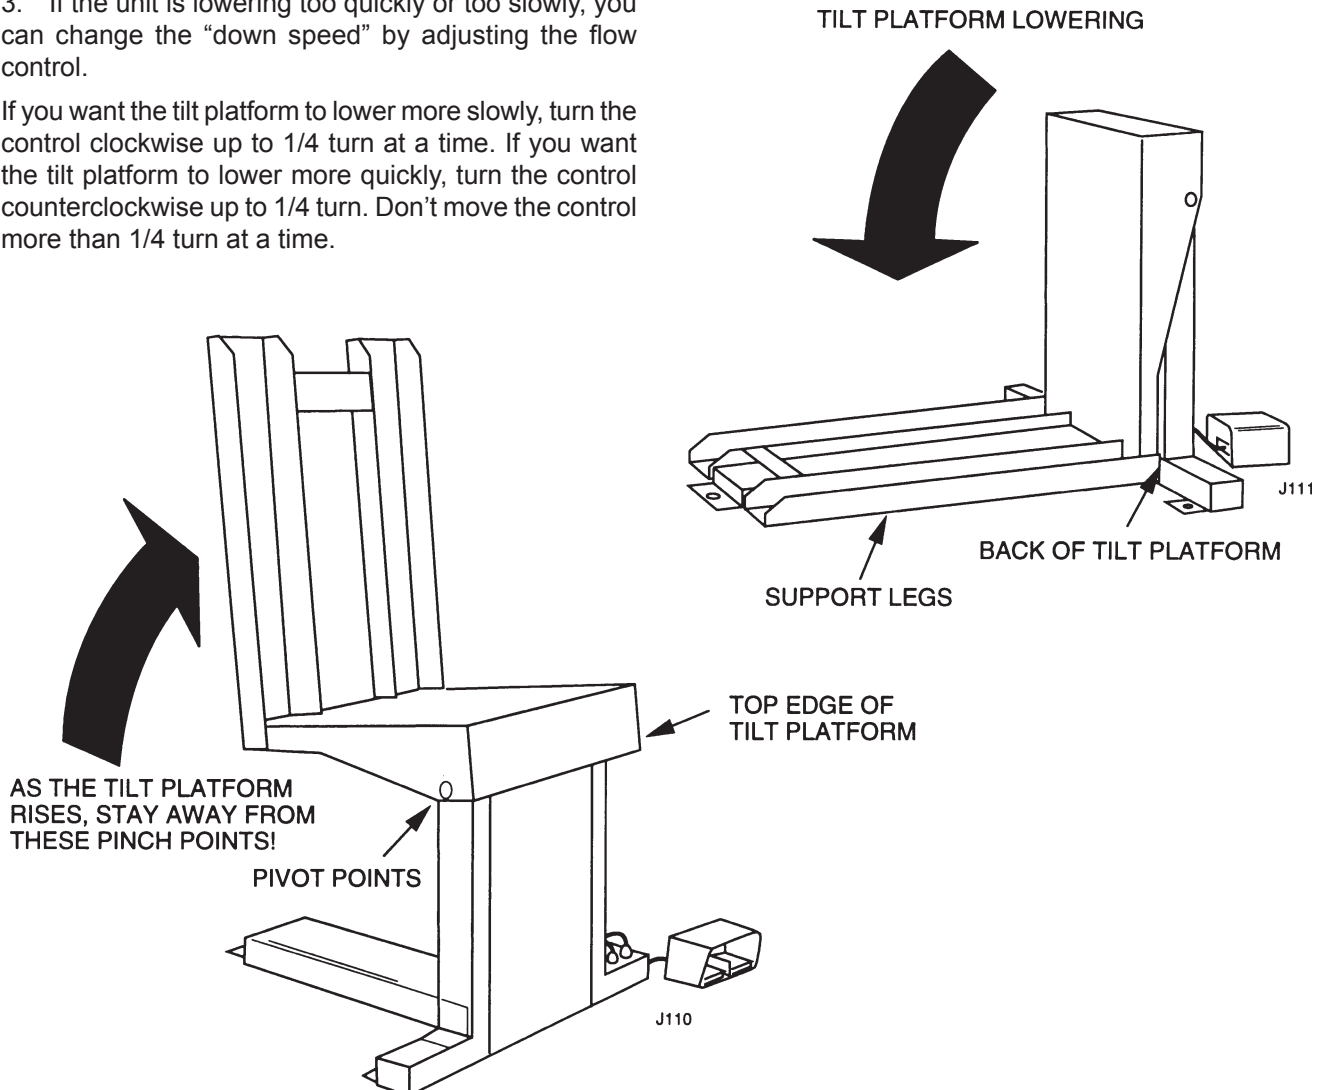

Fig. 2. Pinch Points
As the tilt platform moves up and down, “pinch points” are created at the places shown in Fig. 2. If you are standing too close to the unit when it is moving, your arm or leg may be caught in the moving parts, and you may be hurt. Stay away from the pinch points when the unit is moving.
As the tilt platform moves up and down, “pinch points” are created as shown in Fig. 2. Stay away from these pinch points! Part of your body or clothing may become caught, and you may be hurt. Do not put your hands or feet under the tilt platform. Do not stand or sit on the tilt platform.
- **As the unit moves up and down, "pinch points" are formed as shown in Fig. 2. Keep hands, feet, and loose clothing away from these pinch points. If your hand or arm or a part of your clothing is caught, you may be hurt.**